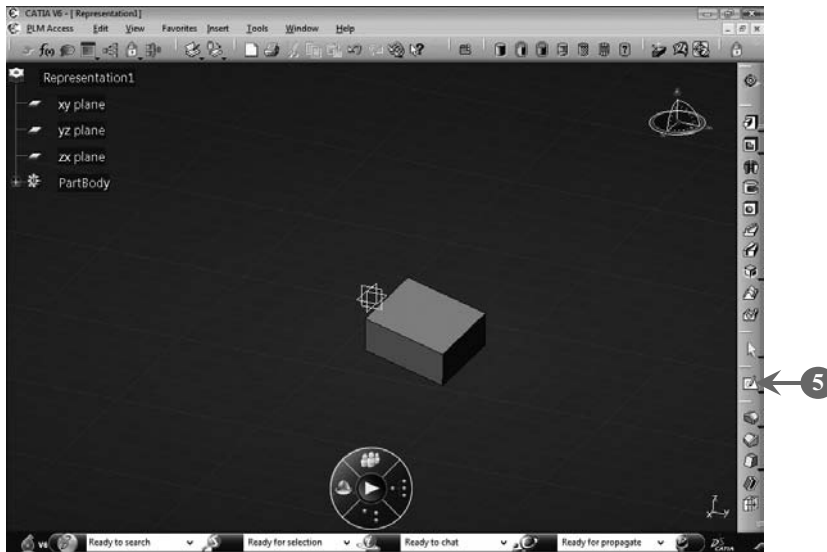

FIGURE 3.16
The solid model after adding the pad feature is shown in **Figure 3.16**:
5. *Open* this solid model (Figure 3.16) in the Sketcher workbench by using the **Sketch** button () . A new image will pop up, as shown in **Figure 3.17**: